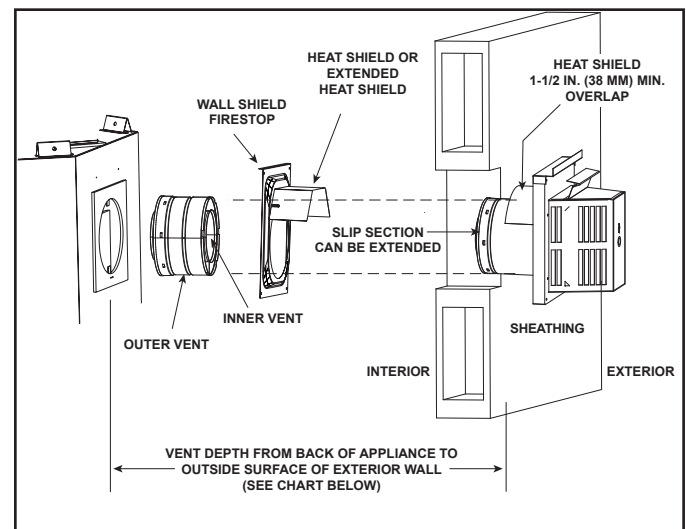

Figure 7.12 Venting Through the Wall
- **DO NOT** remove the heat shields attached to the wall shield firestop and the horizontal termination cap (shown in Figure 7.12).
There are two sections of the heat shield. One section is factory-attached to the wall shield firestop. The other section is factory-attached to the cap. See Figure 7.12.